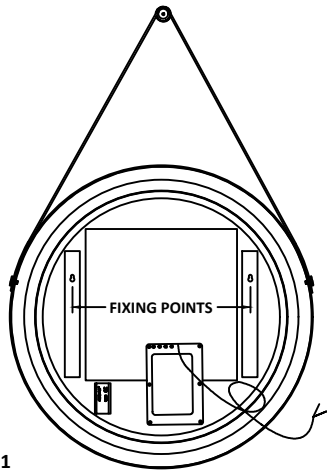

Fig 1
- Carefully mark the position of the mirror using a soft pencil ensuring it is level. Remove the mirror and mark the mounting points, see Fig 1. Please ensure that all marked mounting points accurately match up with the fixing points on the mirror.